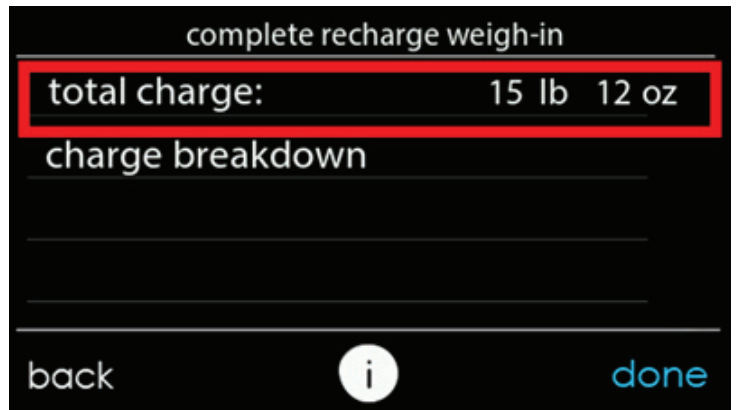

Fig. 20 – Total Charge Required for a Complete Charge A200039
14. If this is a complete re-charge then select "complete recharge" in the "charging mode selection" screen. This screen will show the total amount of charge to add for the indoor coil, line set, and outdoor unit (see Fig. 20). The "charge breakdown" screen shows the charge required for each component of the system.